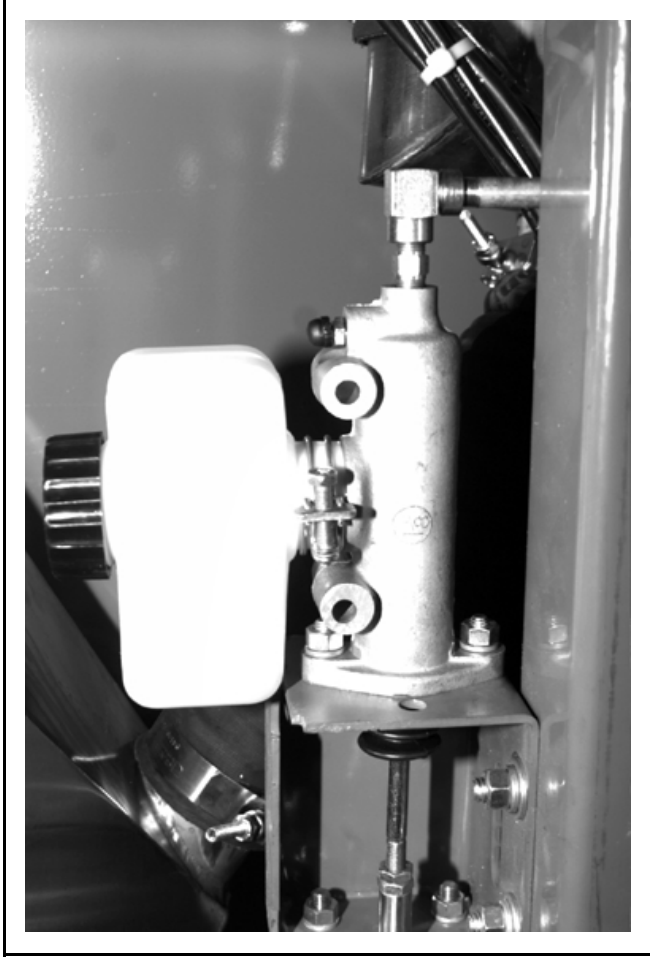

FIGURE 21 (MSSM0201CE)
• Disk brake reservoir (60" and 72" Staph-Guard® only) FIGURE 21	Check level, refill as required (Always use fresh fluid from a sealed container)